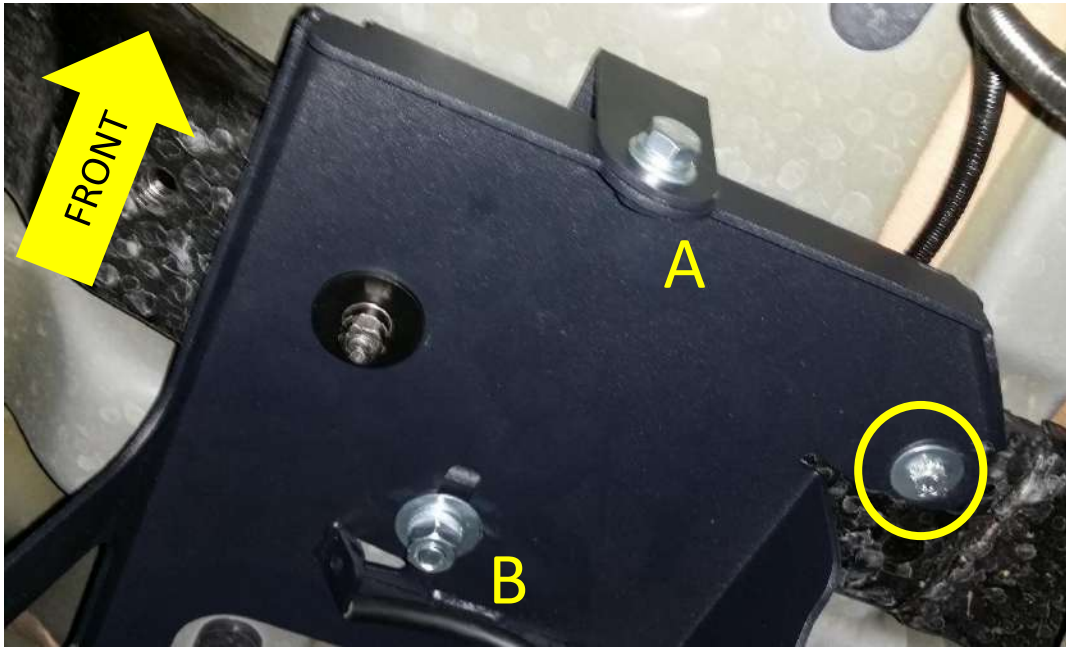

Figure 13 JK-201 Mounting Points
- 9.2.3. While holding bracket in place, install M6 bolt #7, #8, & #26 through hole shown circled in Figure 13. This hole intersects a tapped hole in middle crossmember; hand tighten fastener.
- 9.2.7. Attach JL-202 strap over crossmember and secure to points “A” & “B,” shown in Figure 13. Use Hardware #1, #2, #6, & #11 for B, and #9, #10, & #25 for A. It is easiest to slide strap over crossmember in large space between underbody and crossmember near driveshaft.